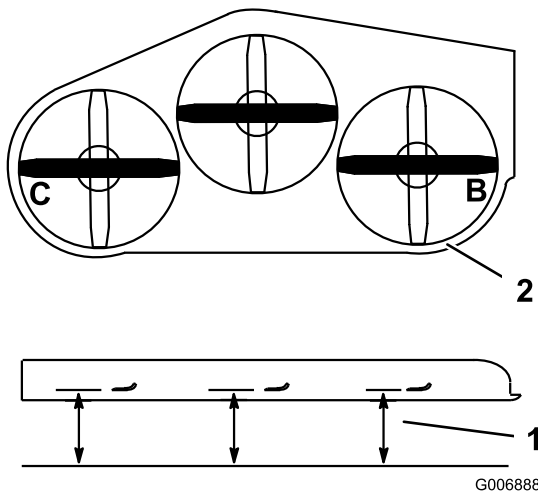

Figure 55
1. Position the right blade front-to-rear (Figure 55).
2. Measure the right blade at the **B** location, from a level surface to the cutting edge of the blade tip (Figure 55).
4. Position the left blade front-to-rear (Figure 55).
5. Measure the left blade at the **C** location (Figure 55), from a level surface to the cutting edge of the blade tip .